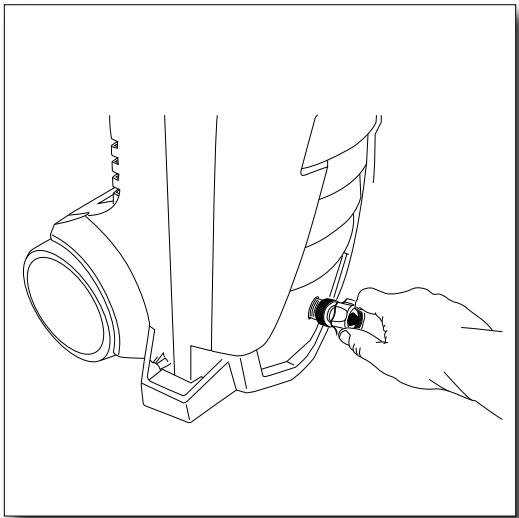

Fig. 15
- Attach the “silver” collar directly to the power washer water inlet and hand tighten. (**Fig. 15**)